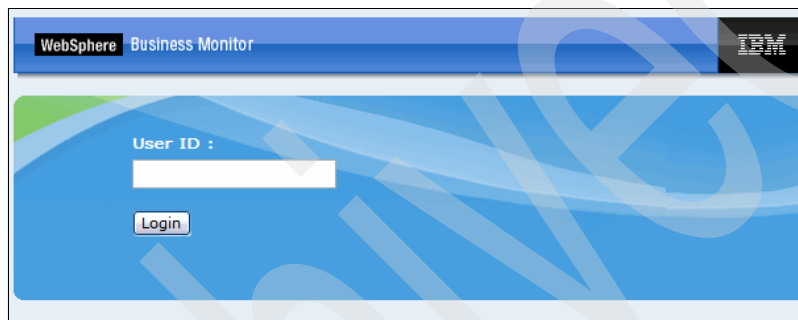

Figure 3-60 WebSphere Business Monitor Dashboard
2. Log in to the WebSphere Business Monitor Dashboard (Figure 3-60).